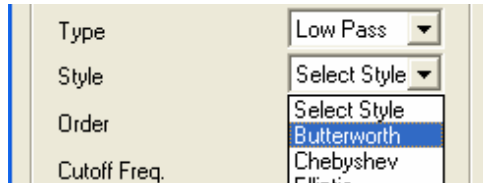

Figure 12
10. Selecting a Filter type will activate the next dropdown menu, **Style**. From this menu select a Butterworth filter (figure 12).